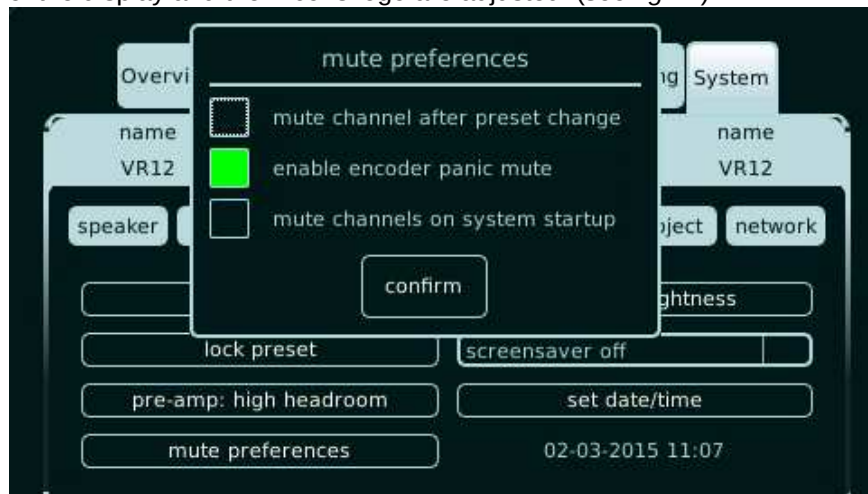

Fig 23. Mute preferences set-up menu
7.7.7 Mute preferences- different muting options prevents unwanted passing of audio, while being active in the Preset tab, or with startup. (see fig.23)